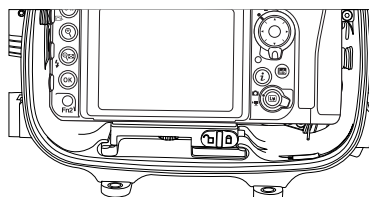

Figure 5
- Remove the housing cap (4);
- Move the tray safety cursor towards the close padlock symbol; (fig. 5)